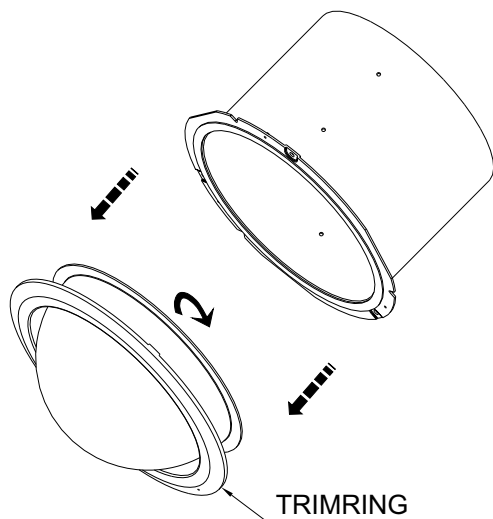

FIGURE 1
1. Remove the bubble from the trim ring. (See Figure 1)